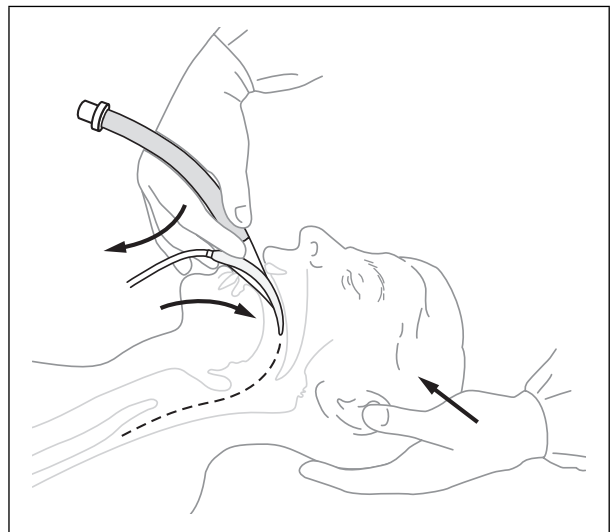

Figure 3
4. Using the index finger, push the mask backwards **still maintaining pressure against the palate (Figure 3)**.